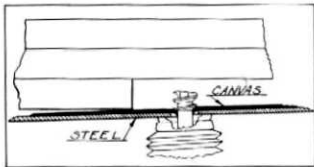

Fig. 31—Position of Plunger for Lubricating Spring
5. Screw the plunger several times to the right to thread the end through the canvas (fig. 31).